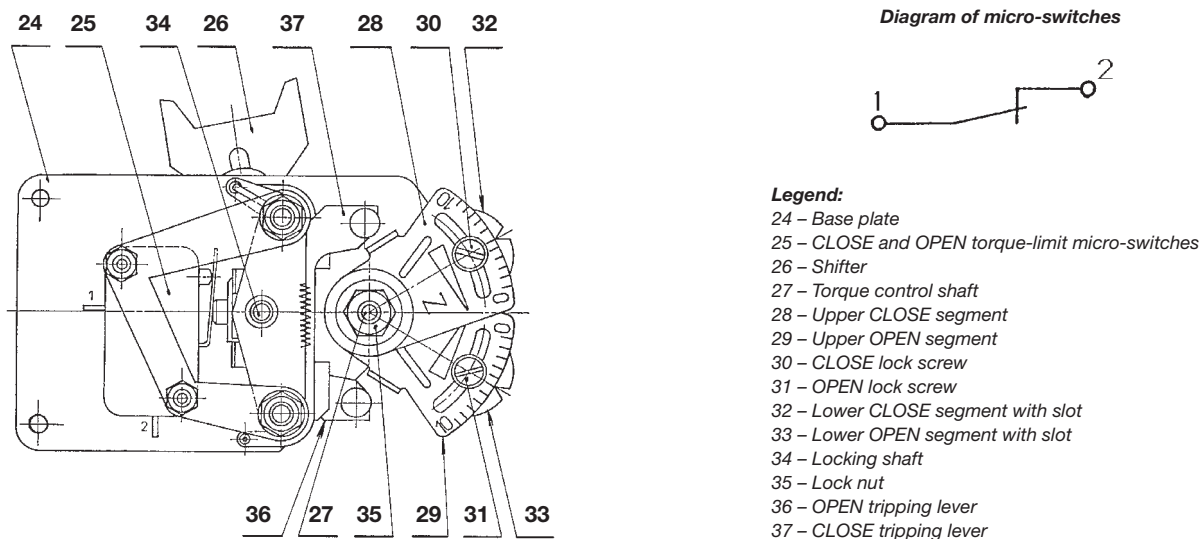

Fig. 3 - *Torque-limit switching unit*
a) Torque-limit switching unit (Fig. 3).
The tripping torque different from that to which the unit was set in the factory is adjusted as follows: Loosen the lock nut 35 (Fig. 3) and particular lock screw 30 (for direction CLOSE) or 31 (for direction OPEN). Insert a screwdriver into the slot in the upper segment 28 or 29 and rotate the segment until the slot in the segment 32 or 33 tallies with the respective scale division line. This point is determined in such a way that the difference between the maximum and minimum adjustable torques in Nm is divided by the number of the scale divisions between the marks for the maximum and minimum torques. The figure thus obtained indicates value in Nm of the tripping torque corresponding to one scale division. Interpolation is then used for determining the scale division line with which the slot in the segment 32 or 33 should tally.